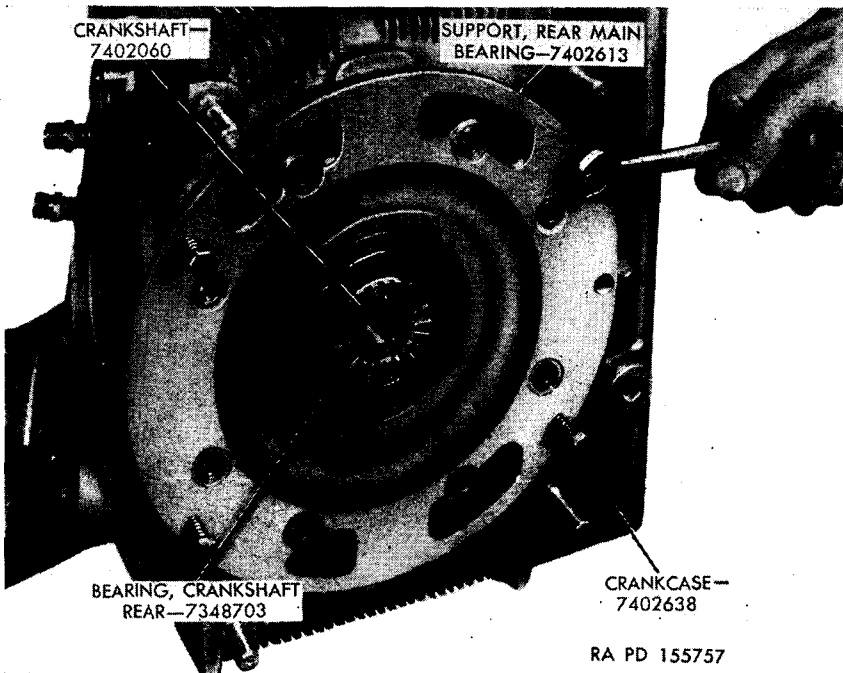

Figure 47. Withdrawing crankshaft and rear main bearing support from crankcase.
- c. Thread four $\frac{5}{16}$ -24 x 1 bolts into tapped holes provided in main-bearing support and, using these as jackscrews, pull main bearing support and crankshaft from crankcase by turning down alternately on jackscrews (fig. 47).